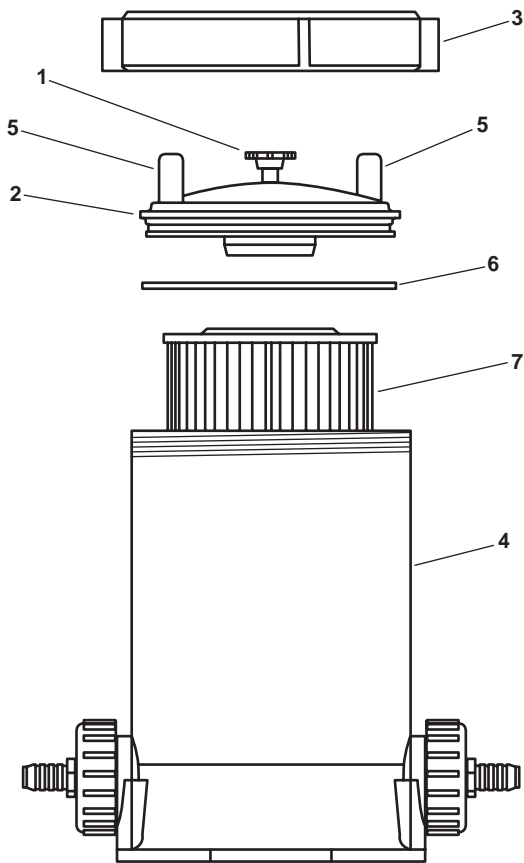

Figure 1. Filter Assembly
5. Rotate the filter housing lid retaining ring (figure 1, item 3) counterclockwise, and remove it from the filter housing (figure 1, item 4).
6. Grasp the handles (figure 1, item 5), and remove the filter housing lid (figure 1, item 2) from the filter housing (figure 1, item 4).
7. Remove and discard the lid O-ring (figure 1, item 6).
8. Remove the filter element (figure 1, item 7) from the filter housing (figure 1, item 4) and discard.
9. Thoroughly clean the interior of the filter housing (figure 1, item 4) with fresh water and clean rags.
10. Remove all debris and foreign matter from the filter housing (figure 1, item 4).
11. Thoroughly clean the filter housing lid (figure 1, item 2) using fresh water and clean rags.
1. Install a new filter element (figure 1, item 7) in the filter housing (figure 1, item 4).
2. Lubricate the new O-ring (figure 1, item 6) with silicone lubricant, and install it on the filter housing lid (figure 1, item 2).
3. Place the filter housing lid (figure 1, item 2) on top of the filter housing (figure 1, item 4) and push the lid down into the filter housing.
4. Place the lid retaining ring (figure 1, item 3) in position over the filter housing lid (figure 1, item 2), and rotate clockwise until snug.
6. OPEN the air release valve (figure 1, item 1).
7. Perform a fresh water flush (WP 0005 00) on the ROWPU with the air release valve (figure 1, item 1) OPEN on the serviced filter.
8. When the filter housing (figure 1, item 4) is full of water, as indicated by a solid stream of water flowing from the air release valve (figure 1, item 1), CLOSE the air release valve.